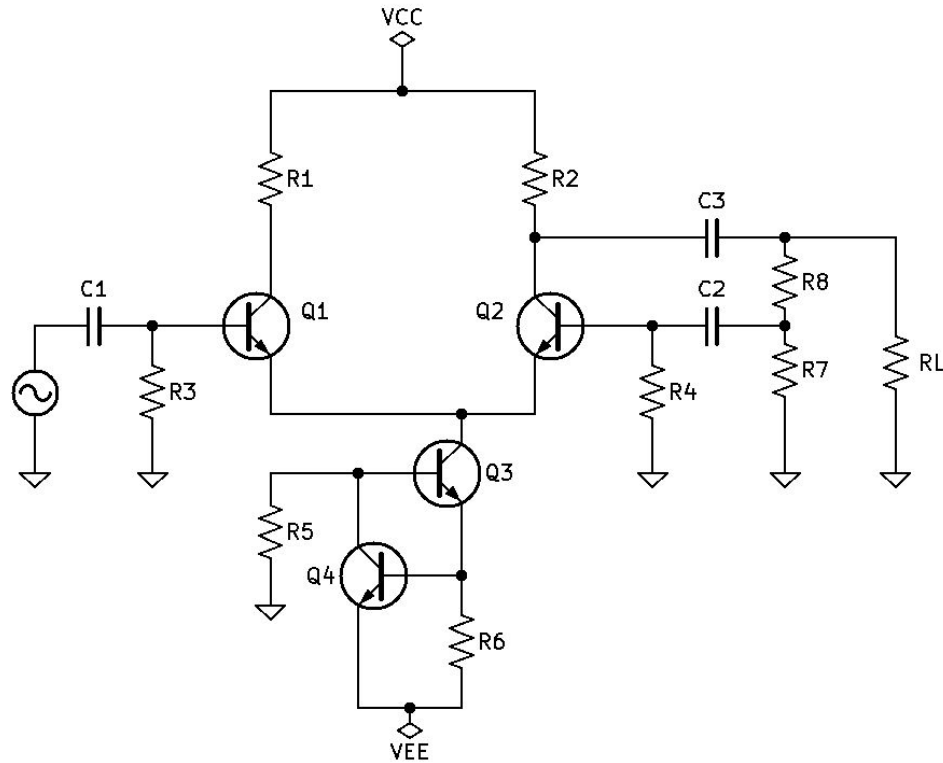

Figure 6.4: Single-Ended Non-Inverting Diff Amp with Gain Control.
1. See Figure 6.4 *Single-Ended Non-Inverting Diff Amp with Gain Control*.